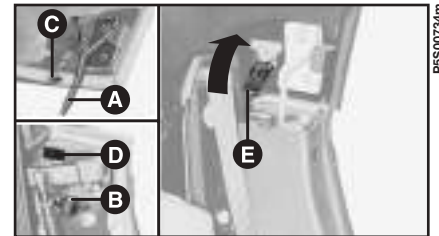

fig. 63
4) Lower the hard top, and fit pins **A**-**fig. 63** into anchorage points **B** on the car (for the sole purpose of better showing anchorage points **B** in **fig. 63** the guard on the car has been removed).